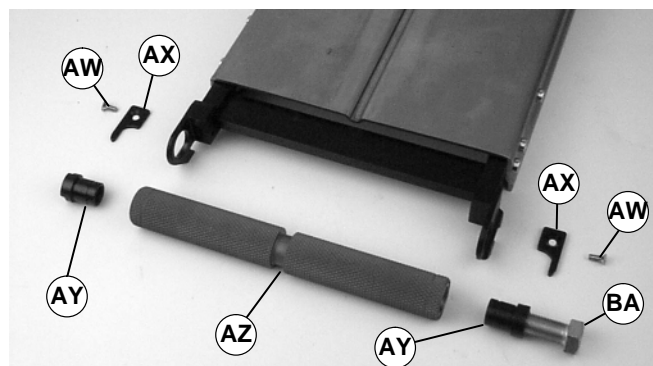

Figure 38
1. Remove the two (2) screws (AW of Figure 38).
2. Remove two clips (AX).
3. Install bolt (part # 906-278\*) (BA of Figure 38) into bearing sleeve(s) (AY). Remove bearing sleeve(s) (AY).
**NOTE:** If retaining sleeve (AY of Figure 38) does not slide out: